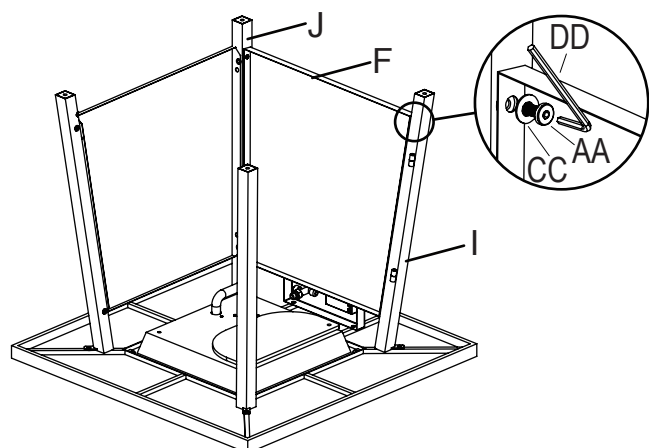

Figure 4
- Attach front panel (F) to front-left leg (J) and front-right leg (I) with bolts (AA) and washer (CC) using hex screw driver (DD), (see Figure 4).